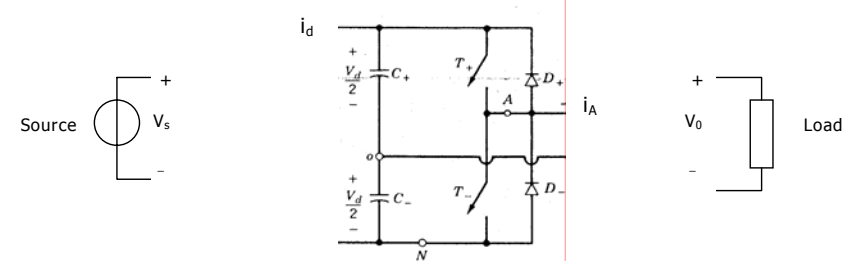

Fig. 13
For a certain application a dc voltage has to be stepped up from a source voltage V_s to a higher load voltage V_0 . The voltage across the load should be fairly constant. The circuit as shown in Fig. 13 is available, however the circuit is not complete yet and at least an inductor L has to be added. The indicated terminals are not necessarily the terminals that have to be used as input and output.
- (10) 3.1 Show by means of a circuit diagram how the desired conversion can be obtained by using the circuit from Fig. 13. Show where the inductor L should be added and include the connections to source and load. Describe shortly how the circuit is operated.